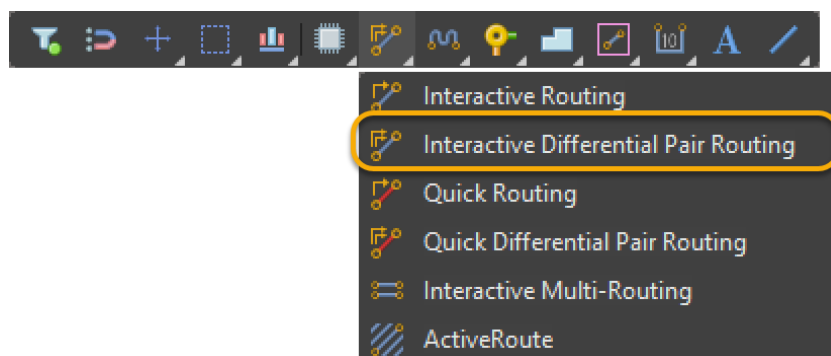

Figure 26. Interactive Differential Pair Routing
59. To start the routing select **Interactive Differential Pair Routing** from the Active Bar, Figure 26, or use the shortcut **U>I**.